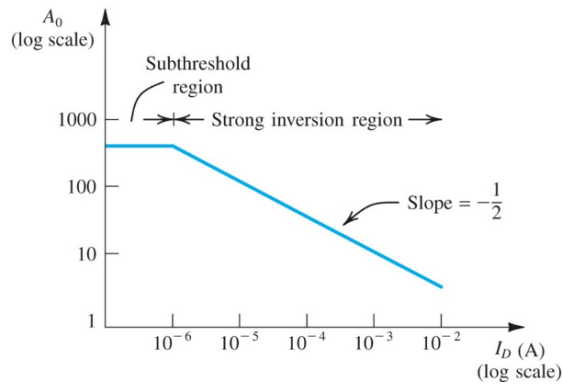

Figure 1: Intrinsic gain in dependence of drain current of a MOSFET.
You are required to execute the tasks and answer all the questions posed below and to submit a report on your work. The report needs to be explaining clearly what you have done, how you have done it, what the results were and what you conclude from them. Make sure to answer all questions! Supply the report with drawings of the circuits (including the values of the components and parameters you used where appropriate, e.g. bias voltages/currents, component sizes etc.) and measurement setups, and show your measurements in graphs! Use labels in the schematics that you draw, such as  $M_1$ ,  $M_2$  ( $M$  is often used for labelling CMOS transistors),  $opamp_1$ ,  $I_1$ ,  $V_1$  etc. You should then use those labels in your text, since it is much easier to write: 'transistor  $M_1$  in figure 1' than 'the transistor third from the top and second from the left in the righthand side circuit in figure 1'. **MANDATORY:** Include a photograph of your circuit into the report!
The task of this lab is to recreate the figure 7.14 in the book (here figure 1) with real measurements. We shall not plot the intrinsic gain of a single transistor, but the gain of a common source amplifier  $A_V$  with a 'active load', i.e. a transistor with fixed bias gate voltage, as depicted in figure 2.
**Task 3 (4p)** Measure the gain for a range of biasing conditions, i.e. different  $I_D$ . Use at least 10 different  $I_D$  and make sure to have several both in strong inversion and weak inversion to get a 'smooth' plot of  $A_V$  vs  $I_D$  similar to figure 1. Also use a log-log plot. Does the curve indeed look similar to figure 1?